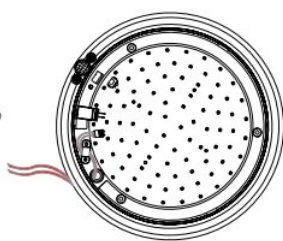

Fig.3
- Step5 Connect the cable to the lamp through the cable entry openings. (as **Fig.3**)